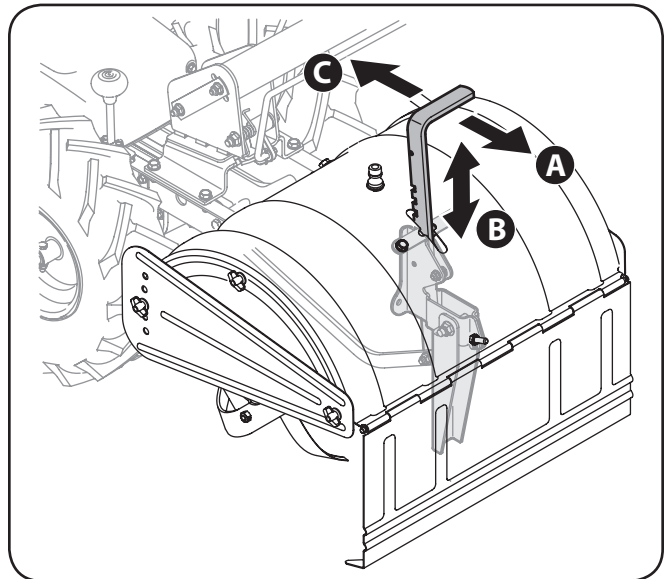

Figure 5-2
1. Pull back on the depth adjustment lever (A), move the lever up or down into the desired tilling depth (B) and move back forward to lock into place (C). See Figure 5-2.
2. When using the tiller for the first time, use the second adjustment slot from the top. See Figure 5-2.